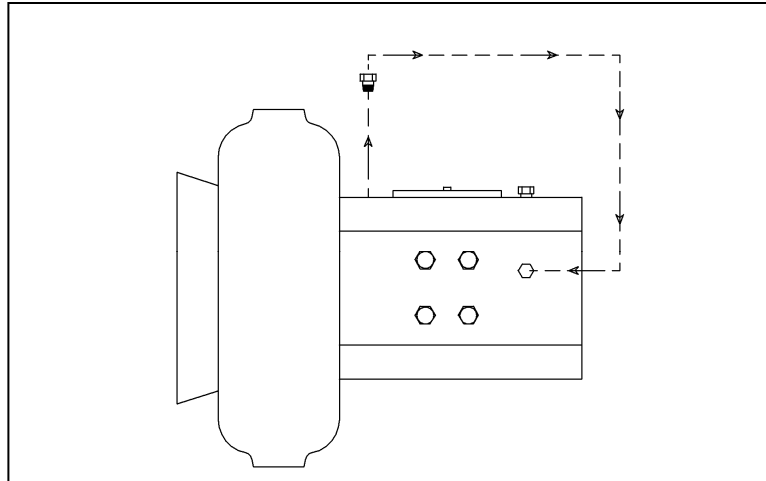

Figure 2: Old Components Removed
8. Remove the fittings in the side of the actuator that were tubed to the OPEN and CLOSE lines from the old hand pump. Also remove the plugs in the upper head on the control side. Clean the threads of the plugs, apply an appropriate pipe sealant and plug the side ports. (See Figure 2)